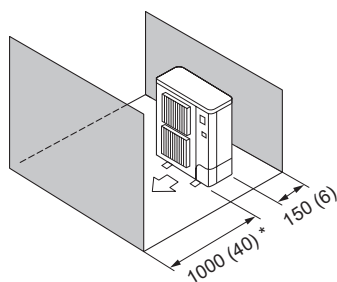

Fig. 2-10
- (5) Obstacles at front and rear only (Fig. 2-10)